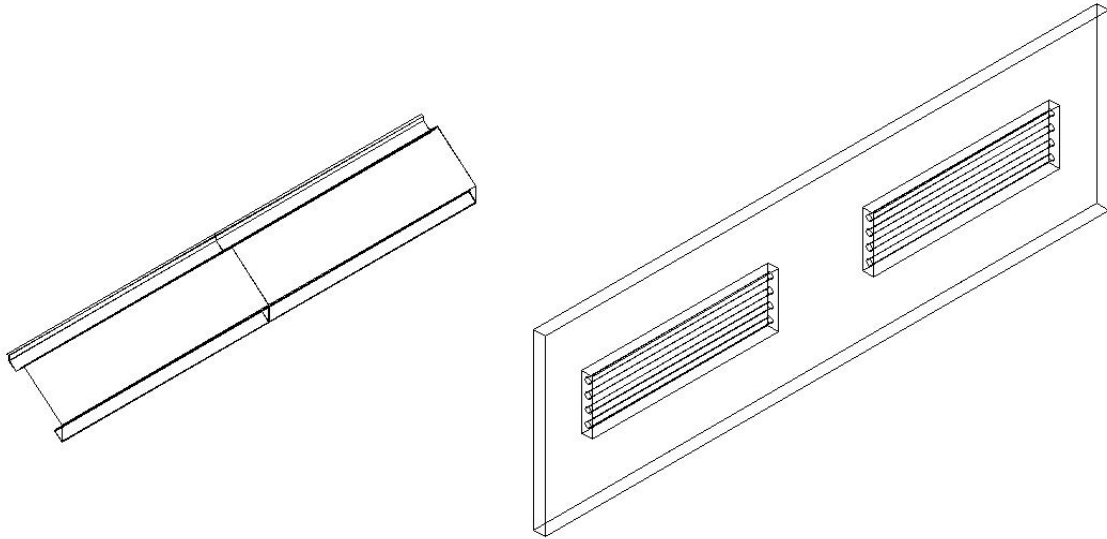

Fig. 1.4
- The internal illumination is warranted by the overhead lights (shown in Fig.1.4) inserted into the top of the side panels, positioned at an angle of 45° to warranty a sufficient and uniform illumination.